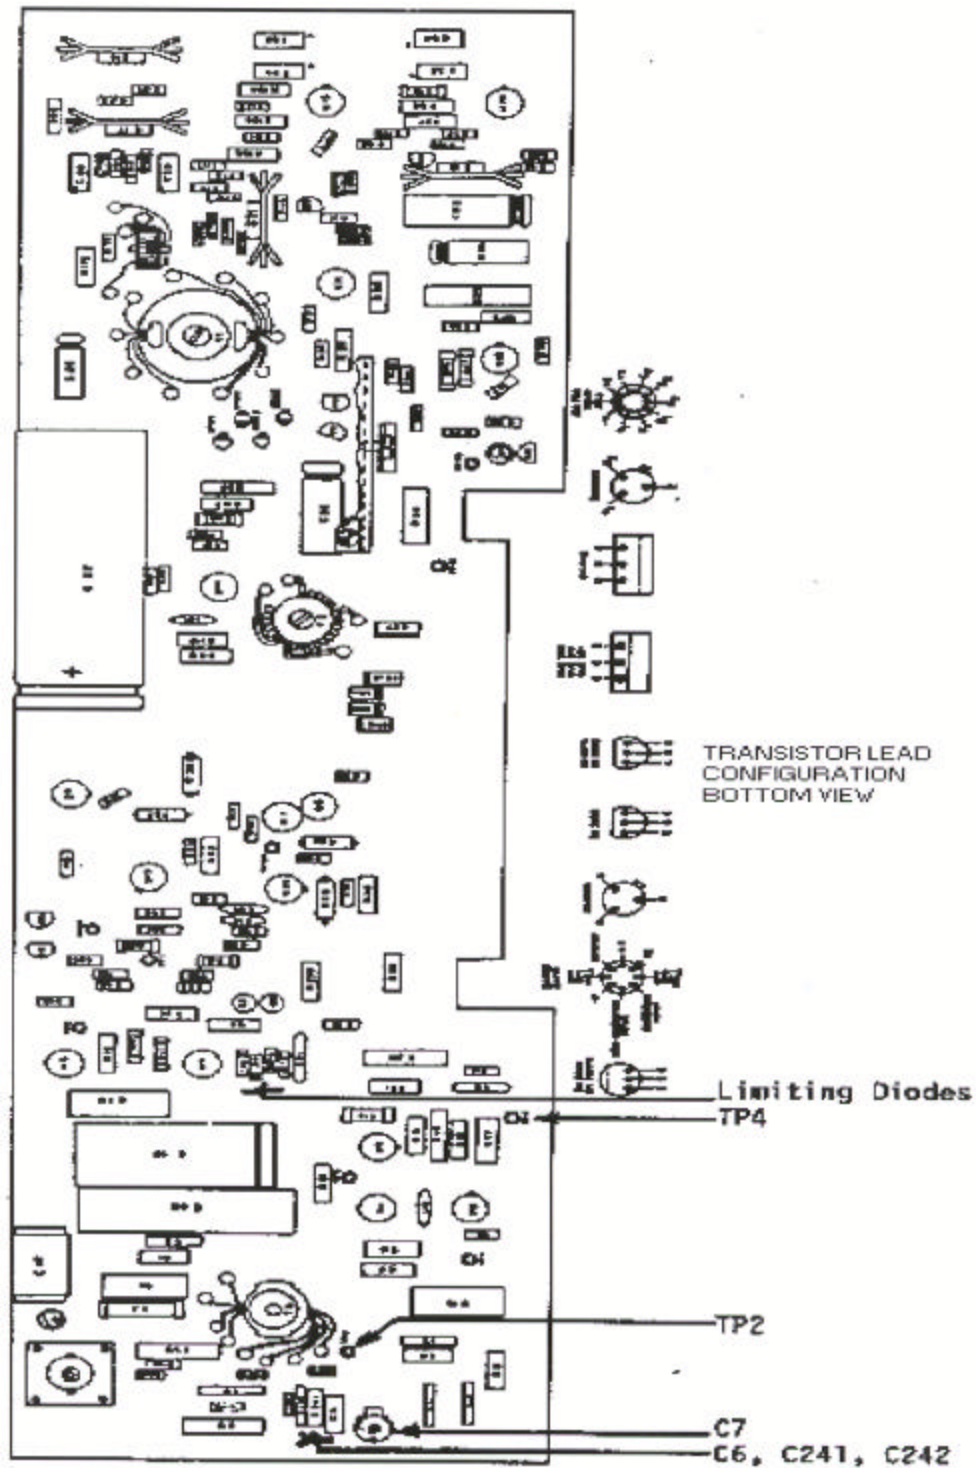
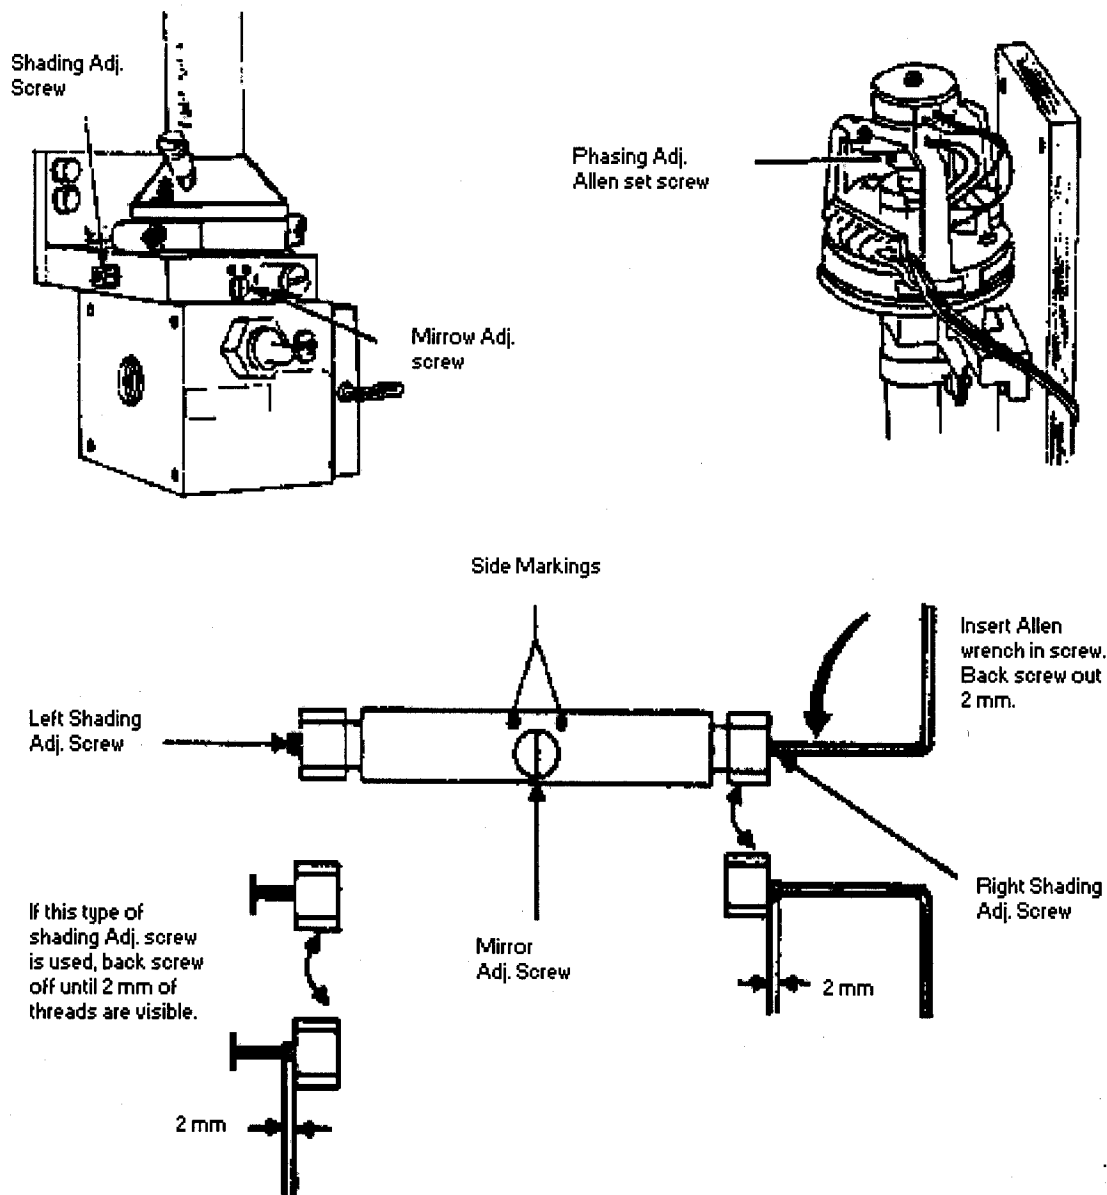

Figure B.1.3.1
Figure B.1.3.5
1. C-7 Adjustment (see Figure B.1.3.1) - Loosen the four screws securing the analyzer panel to the case and remove the panel. Loosen the captive screw and pull the chassis out of the case. Measure the voltage at TP 2 on the analyzer card with a digital voltmeter capable of a ± 1 mv resolution. The voltage should be 0 ± 10 mv. If necessary, adjust C-7 to obtain the correct voltage. If the detector cell or analyzer card is replaced, capacitors 241, 242, or 6 may have to be changed. Contact you supervisor for instructions.
2. Optical System Zero Balance (see Figures B.1.3.1, B.1.3.2, B.1.3.3, and B.1.3.4) - Connect an oscilloscope between TP 4 and ground on the analyzer card. Set the scope to read a maximum amplitude of 300 millivolts with the time generator off. With the analyzer sampling zero gas, minimize the AC peak to peak voltage (PPV) using the following procedure. (See note below for analyzers with the new optical bench. See Figure B.1.3.5 for a pictorial description of the new optical bench.)
3. Phasing Adjustment (see Figure B.1.3.1 and B.1.3.4.) - Connect an oscilloscope between the input to the field effect transistors (the top of the limiting diodes C6, C7, C8, and C9 is a convenient place) and ground. With the analyzer sampling span gas on the normal range, the scope signal should be similar to one of the following: